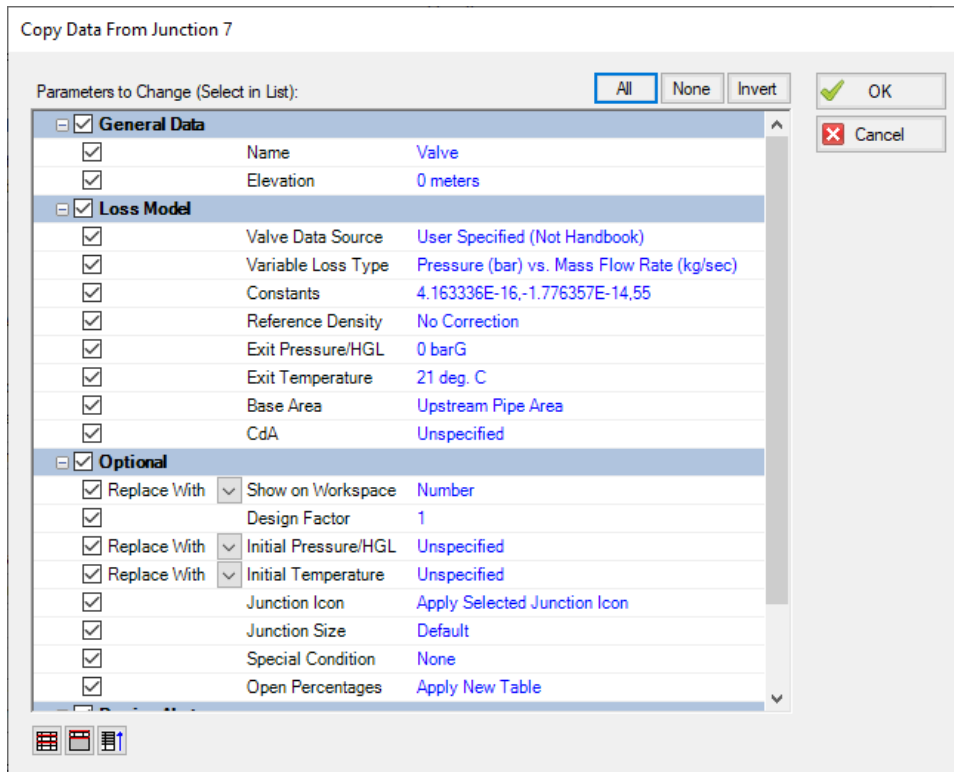

Figure 3: Copy Data From Junction 7 window for J8
- a. Open the Valve Property window, and in the Copy Data From Jct drop-down list at the top, select J7. This will open the Copy Data From Junction window. Click All at the top. This will cause all of the properties to be set to the same as the properties for J7 (see Figure 3). Click OK. J8 now has all of the same properties as J7.